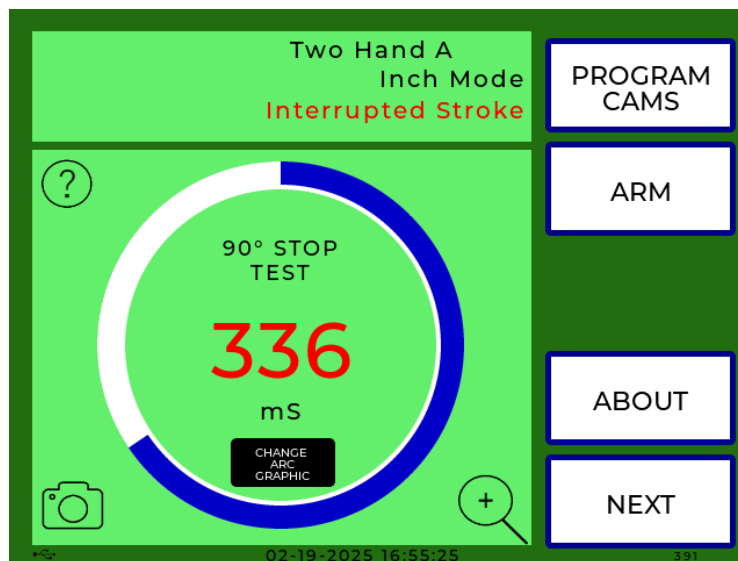

Figure 28. 90° Stop Test Screen
- In step 3, press NEXT repeatedly until the 90° Stop Test screen appears, Figure 28.